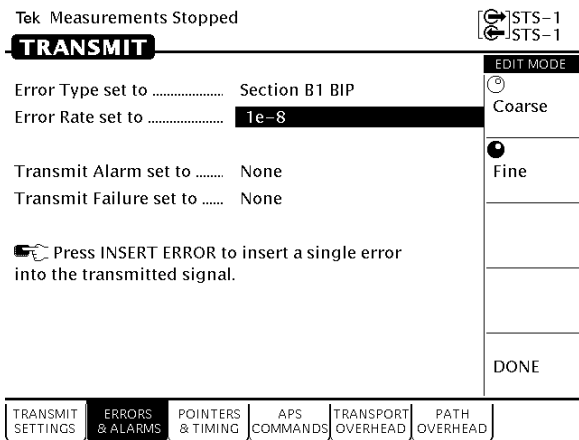

Figure 3–47: Setting An Error Rate
2. Select **USER DEFINED** to specify an error rate different from the preset choices. The CTS 710 enters edit mode (Figure 3–47).
**Burst Pointer Movements.** With Burst selected, pressing the front-panel **POINTER ACTION** button starts a burst of pointer movement. Each burst consists of a series of one-location pointer movements that are spaced four frames apart. Pressing **POINTER ACTION** repeatedly alternates between an incrementing burst and a decrementing burst (see Figure 3–49).